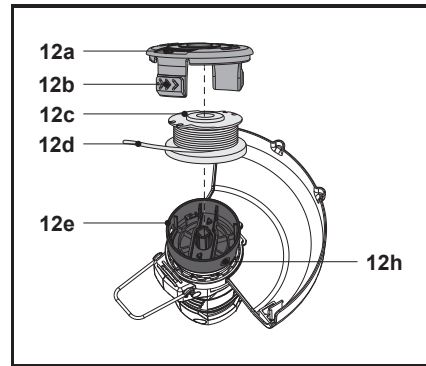

Fig. 24
3. Remove the trimming spool (12c) from the housing (12e) (Fig. 24).